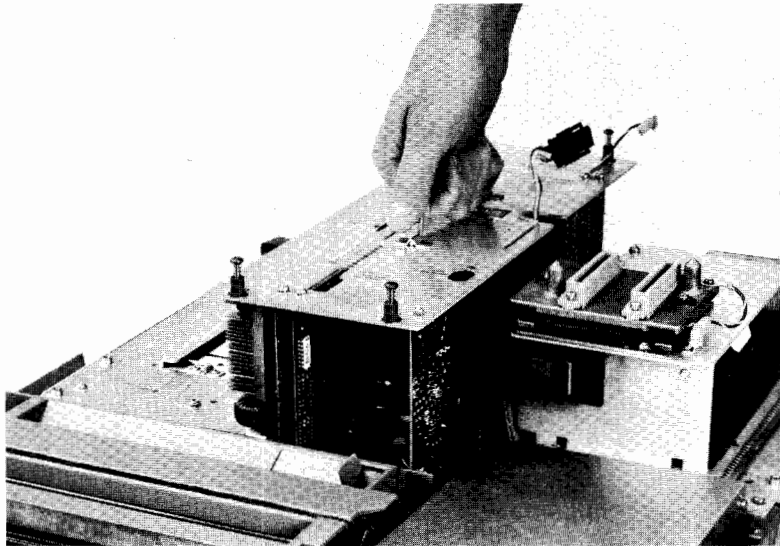

Figure 4-59. Removing Power Supply Assembly
10. Lift power supply straight up and out of computer (Figure 4-59).